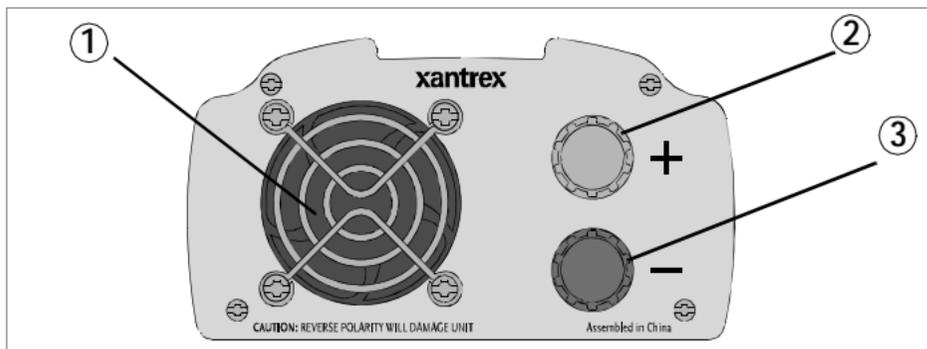
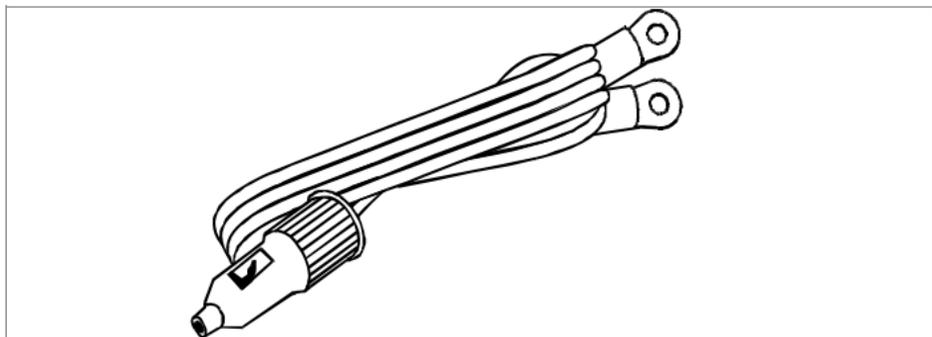
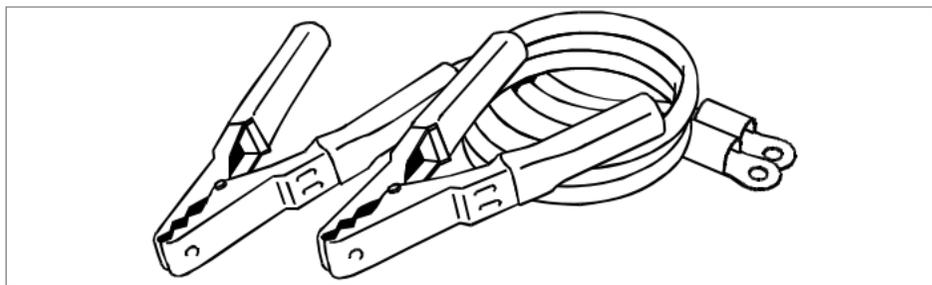

Figure 4 DC Panel of XPower 400 Plus and XPower 700 Plus
Figure 5 Lighter Plug Cable
Figure 6 Cable for Direct Connection to 12 Volt Battery
Figure 4 shows the DC panel of the XPower 400 Plus and XPower 700 Plus inverters.
If you have a XPower 400 Plus, take the power cord equipped with the lighter plug (Figure 5) and place the ring terminals over the two cabling terminals on the back of the inverter. (The cabling terminals are shown in Figure 4.))
3. Take the cables equipped with battery clips on one end (Figure 6) and place the ring terminals over the two cabling terminals on the back of the inverter. (The cabling terminals are shown in Figure 4.)